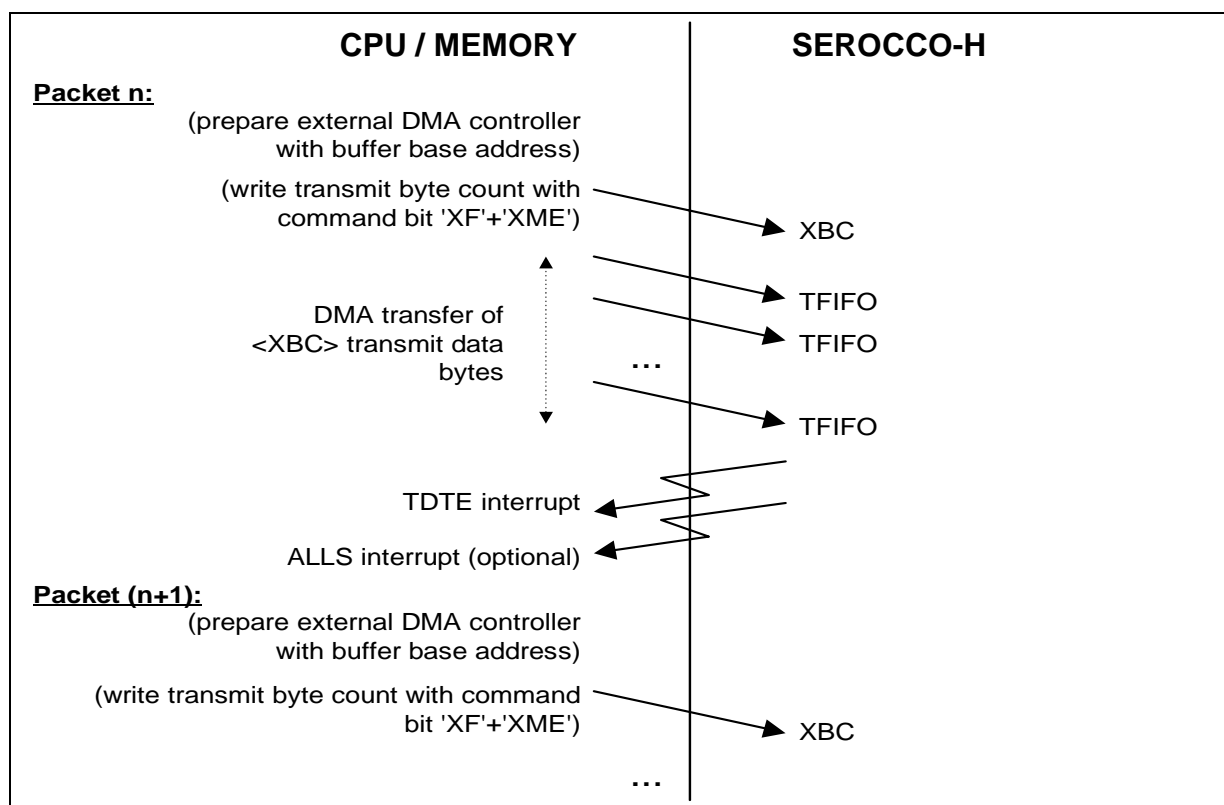

Figure 55 DMA Transmit (Single Buffer per Packet)
- If the prepared transmit buffer in memory contains a complete packet, the start command for DMA transmission is issued by setting bits 'XF' and 'XME' in register **XBCH** to '1'. The DMA support logic will request the external DMA controller to transfer data into the XFIFO. After the last byte has been transmitted, the protocol machine appends the trailer (e.g. CRC and Flag in HDLC), if applicable. The Transmit DMA Transfer End (TDTE) interrupt is generated (refer to **Figure 55**).